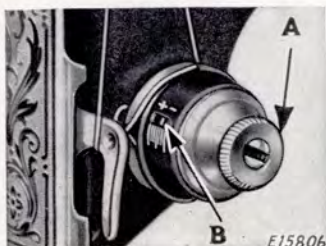

FIG. 17. NEEDLE THREAD TENSION REGULATOR
lowered the presser foot, turn the thumb nut (A, Fig. 17) at the left of the tension discs over toward you to increase the tension. To decrease the tension, turn this thumb nut over away from you.
The graduated collar of the tension regulator is marked with the signs $+$ and $-$, denoting different degrees of tension that can be produced. The amount of tension on the needle thread is shown by the position of the indicator (B, Fig. 17). By noting the position of the indicator (B), the correct tension for a particular grade of work may be readily reproduced.